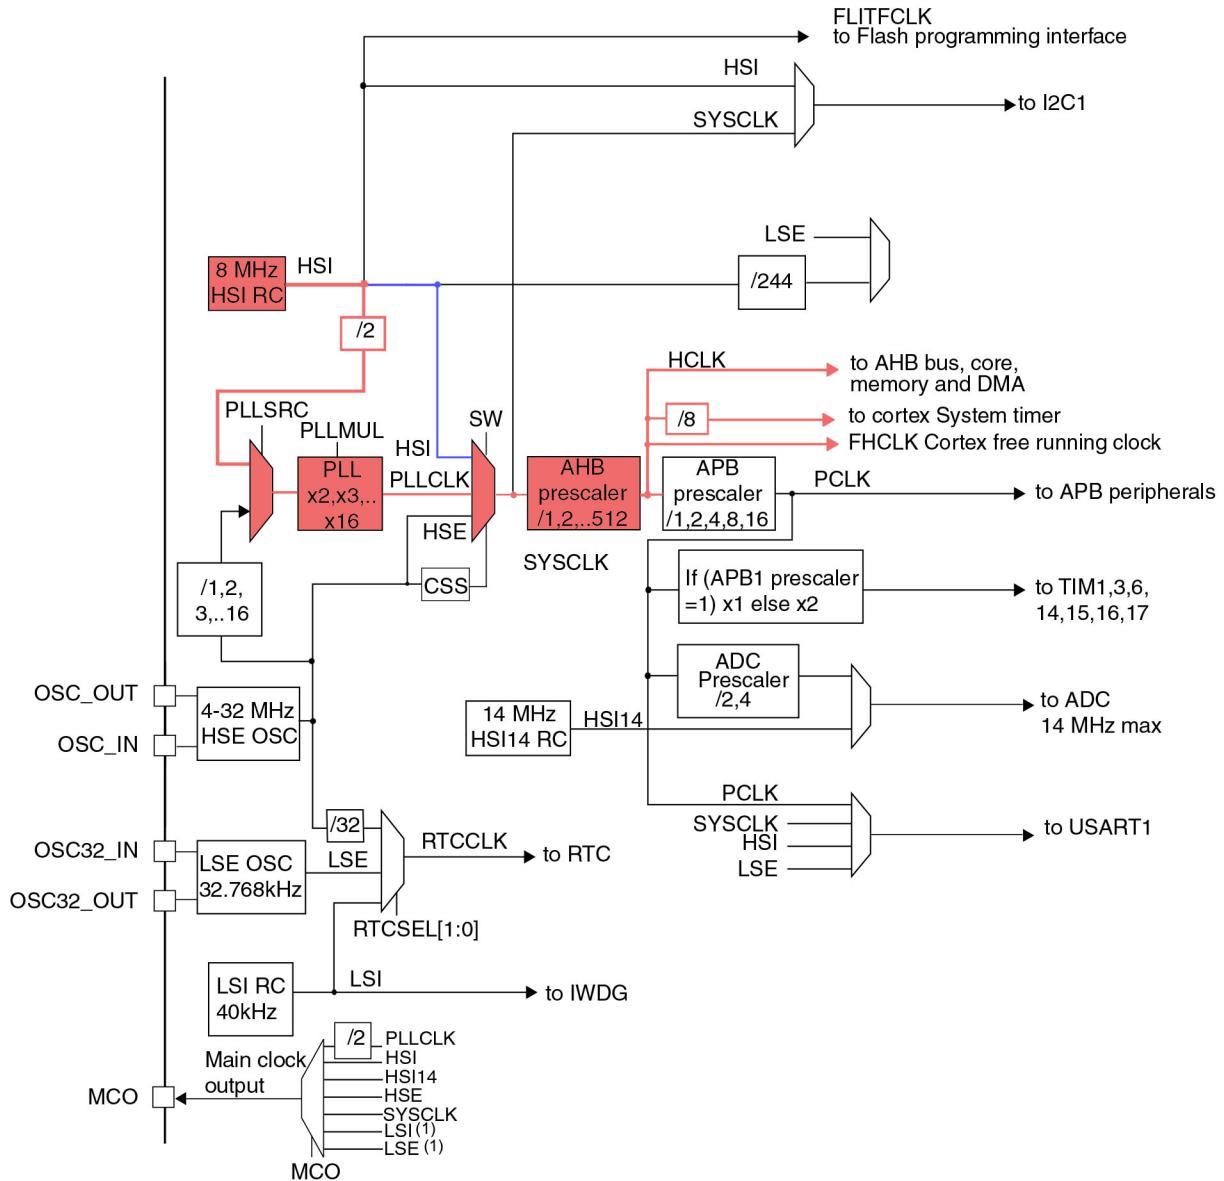

Figure 3: The clock tree of an STM32F030R8 MCU
Figure 3 shows the clock tree of one of the simplest STM32 microcontrollers: the STM32F030R8. It is extracted from the related reference manual⁹ provided by ST. For a lot of novices of the STM32 platform that figure is completely meaningless and quite hard to decode, especially if they are also new to embedded microcontrollers. The most relevant path has been outlined in red: the one that goes from the HSI oscillator to the Cortex-M0 core, AHB bus and DMA. This is the path we have “used” since here silently, without dealing too much with its possible configurations. Let us introduce the most relevant parts of that path.
calibrated by ST for 1% accuracy at a ambient temperature of 25 °C. The HSI clock can then be used to feed the *System Clock Switch* (SW) as is (path highlighted in blue in Figure 3) or it can be used to feed the PLL multiplier after it has been divided by two thanks to an intermediate prescaler¹⁰. The main PLL so can multiply the 4MHz clock up to 12 times to obtain the maximum *System Clock Frequency* (SYSCLK) of 48MHz. The SYSCLK source can be used to feed the I2C1 peripheral (in alternative to the HSI) and another intermediate prescaler, the AHB prescaler, which can be used to lower the *High (speed) Clock* (HCLK), which in turn biases the AHB bus, the core and the *SysTimer*.
Even in this case, the most relevant paths of the clock tree have been highlighted in red and blue. This should simplify the comparison with the Figure 3. When a new project is created, by default CubeMX chooses the HSI oscillator as default clock source. HSI is also chosen as default clock source for the *System Clock Switch* (path in blue), as shown in Figure 4. This means that, for the MCU we are considering here, the Cortex-M core frequency will be equal to 8MHz.